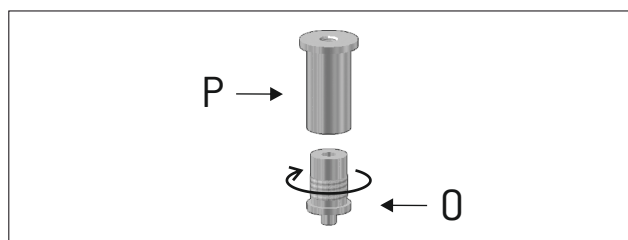

Figure 14
- 14 - Unscrew the gripper (O) from the gripper supports (P). Figure 14.